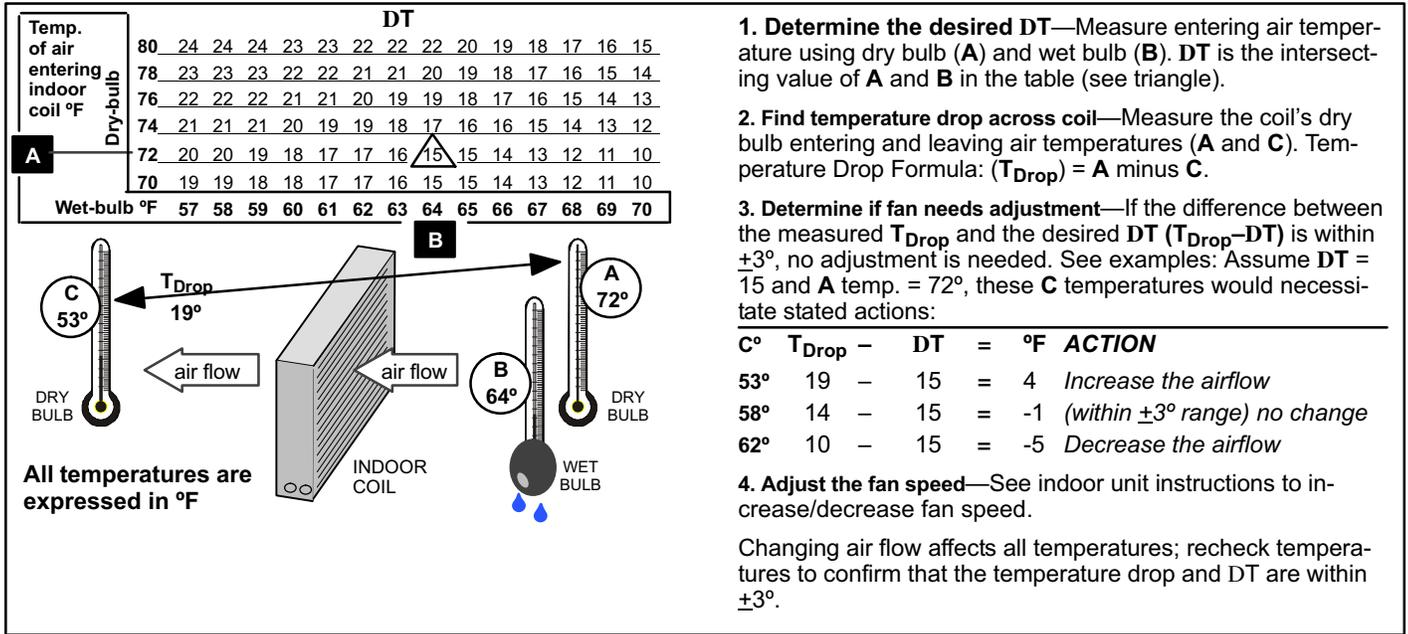

Figure 19. Checking Indoor Airflow over Evaporator Coil using Delta-T Chart
Check airflow using the Delta-T (DT) process using the illustration in figure 19.
1. Confirm proper airflow across coil using figure 19.